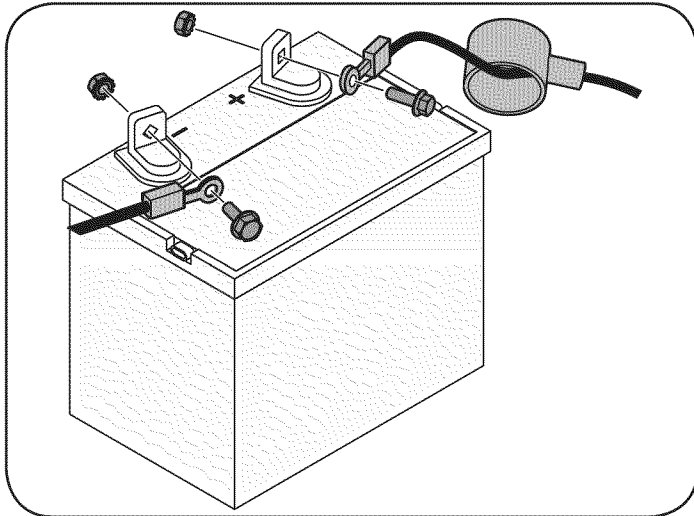

Figure 3
1. Remove the plastic cover, if present, from the positive (+) battery terminal and attach the red cable to the positive (+) battery terminal with the bolt and hex nut. See Figure 3.
2. Remove the plastic cover, if present, from the negative (-) battery terminal and attach the black cable to the negative (-) battery terminal with the bolt and hex nut. See Figure 3.